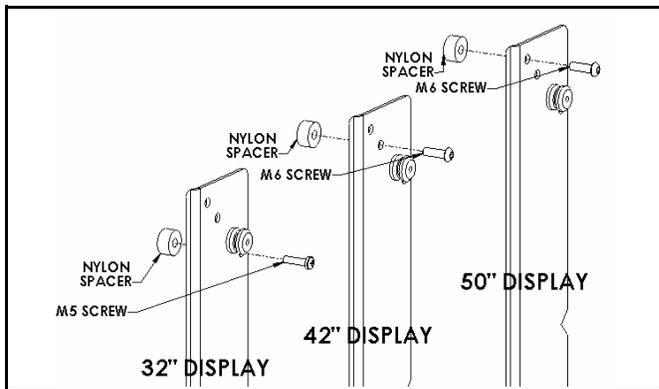

Figure 8: Bracket Hole Location
3. Place nylon spacers over the mounting holes on the back of the screen (See Figure 8:).